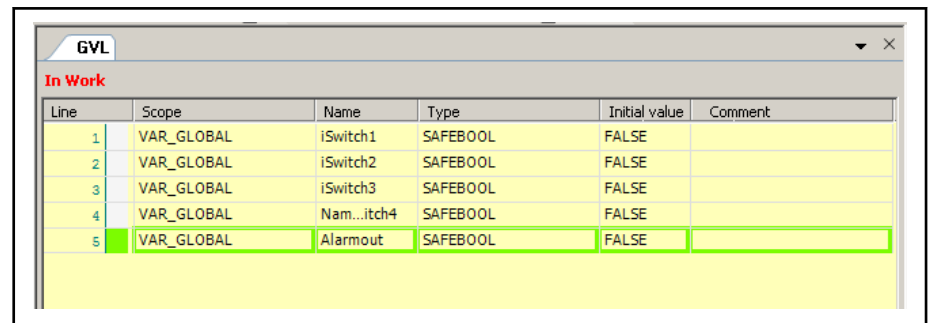

Fig. 6-28: GVL editor
3. Double-click on the desired cell in the editor (see fig. 6-28 "GVL editor" on page 59) to open it